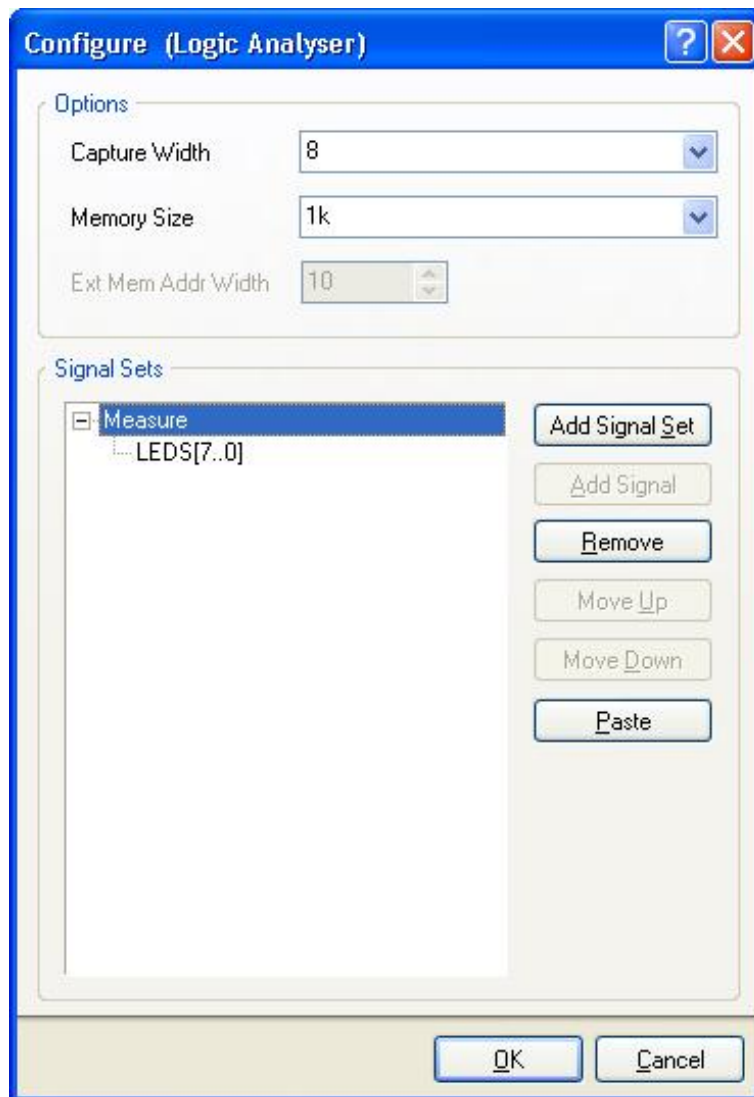

Figure 46. LAX configured to capture input from the LEDS
6. Wire both components as they appear in Figure 46.
8. Configure the LAX with one signal set *Measure*, and a single signal *LEDS[7..0]* as seen in Figure 46.